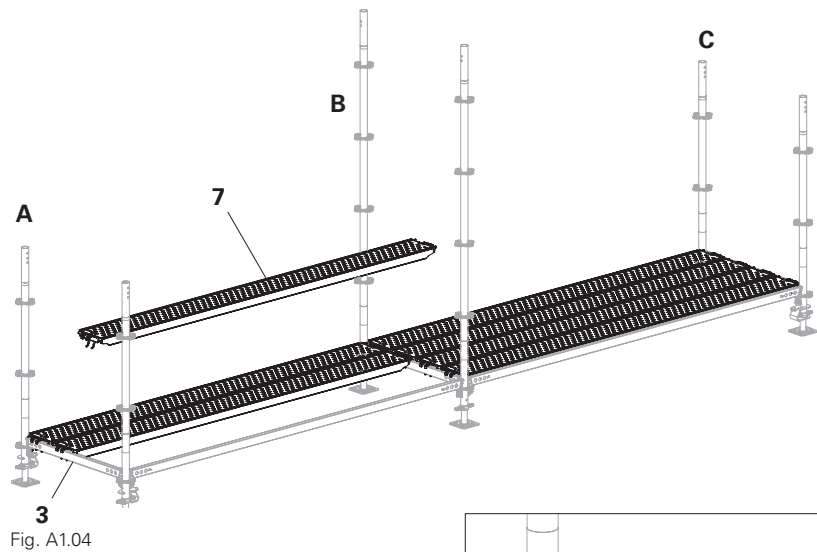
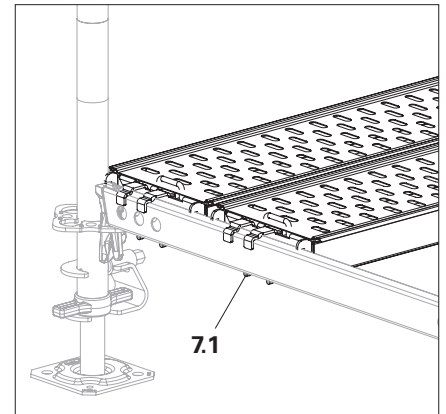

Fig. A1.04
Fig. A1.04a
2. Lift locks (**7.1**) drop beneath the crossbar and secure the deck. (Fig. A1.04 – Fig. A1.04a)